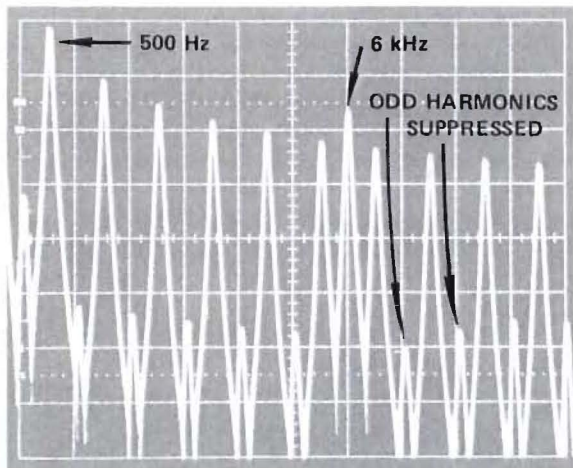

Figure 52 500 Hz 6 kHz source signal for TIM demonstration
5. Bypass the amplifier again and select 1 kHz/DIV in the LINEAR sweep mode on the spectrum analyzer. Manually select a resolution bandwidth so that good sideband resolution is obtained as shown in Figure 52.
6. Observe the pattern obtained directly from the source. Note that the even harmonics of the 500 Hz signal are suppressed (Figure 52).